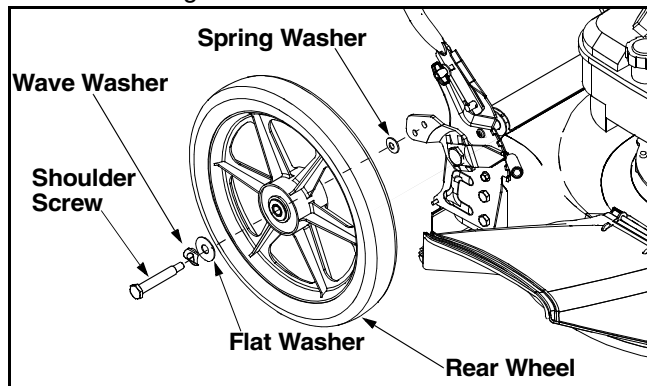

Figure 5
- Secure shoulder screw with hardware to rear pivot bar. See Figure 5.